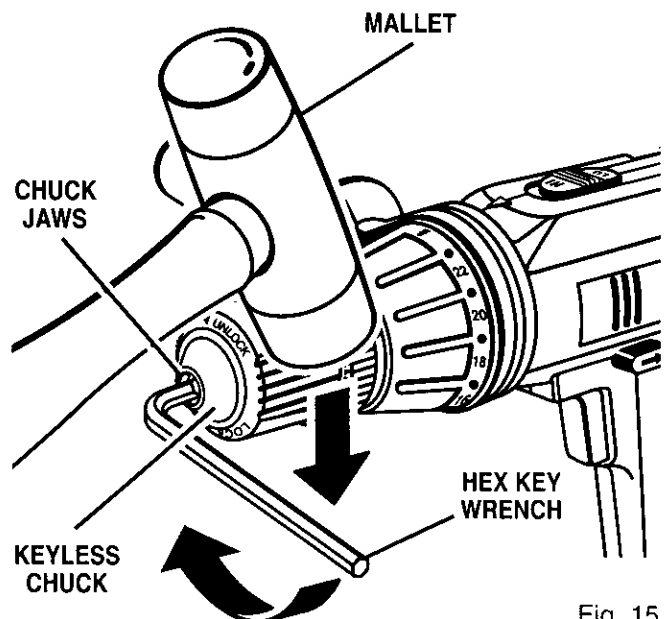

Fig. 15
See Figures 15, 16, and 17.
- Tap the hex key wrench sharply with a mallet in a clockwise direction. See Figure 15. This will loosen the screw in the chuck for easy removal.